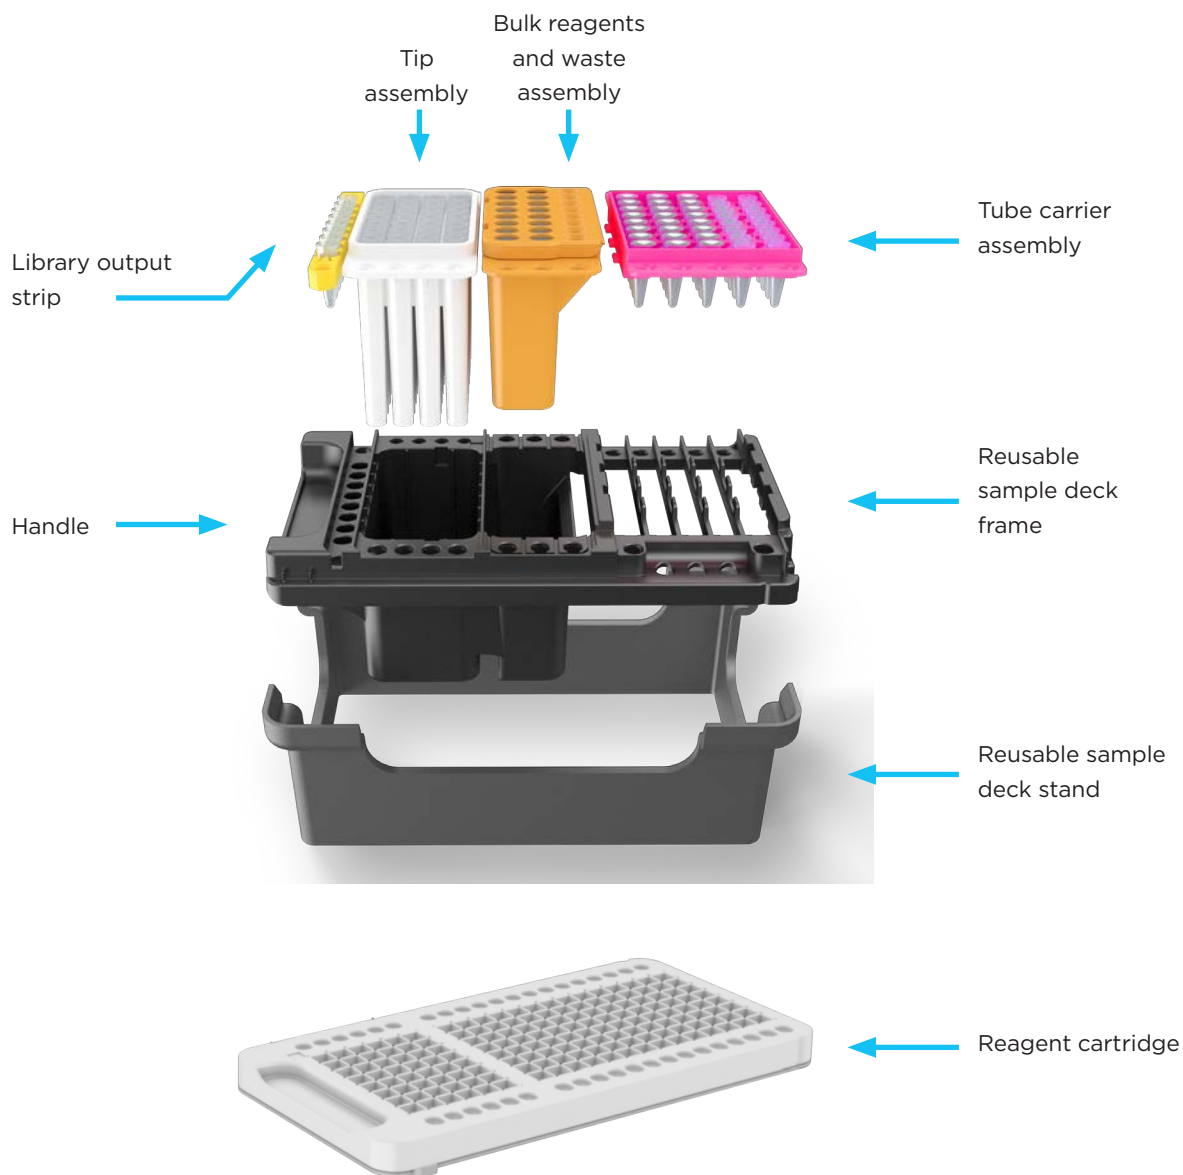

Figure 3. Sample deck components and reagent cartridge.
2. Place the box containing Revelo mRNA-Seq for MagicPrep NGS (Singular Genomics) sample deck components (Figure 3; kept at room temperature) on a laboratory bench and open it.
5. Completed libraries are in the library output strip (Figure 3). Seal library output strip tubes with the included strip caps before removing them from the sample deck. The left-most tube (with the handle facing towards you) contains the library representative of your first sample. See **Appendix 6.1** for library index sequence positioning.